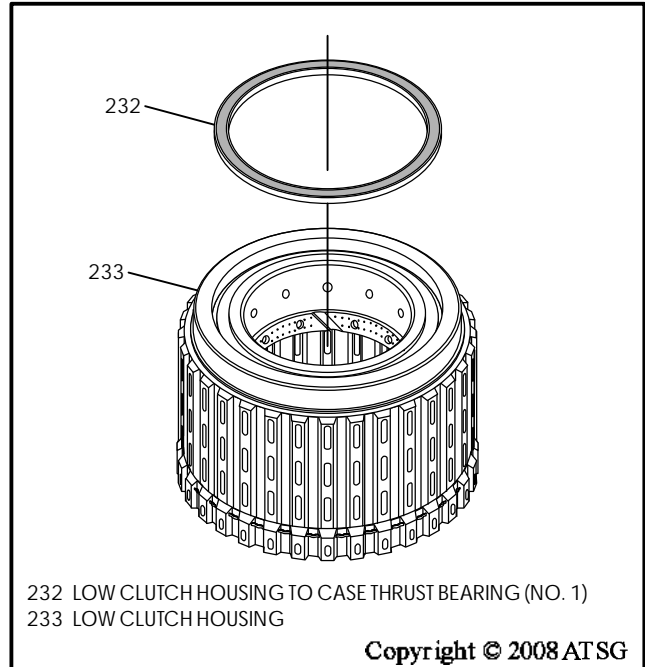

Figure 131
17. Turn the low clutch housing over and install the number 1 thrust bearing, with the black or gold side facing up, as shown in Figure 131, and retain with a small amount of Trans-Jel®.